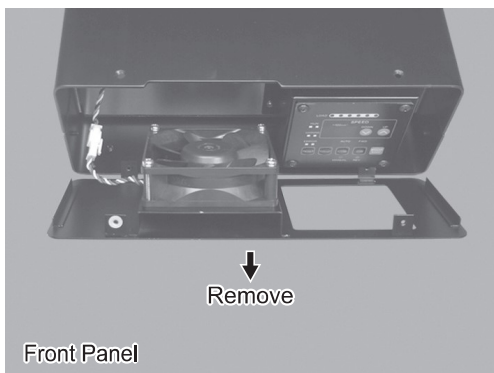

Fig. 41
- (4) Remove the Case (Front Panel) from the CONTROLLER (Fig. 41).